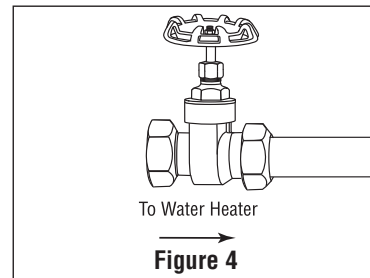

Figure 4
- Using the valve compression fitting, attach the gate valve to the incoming water supply pipe after the system. Firmly tighten compression nut. (Figure 4)
It may be necessary to slightly spread pipe ends apart in order to insert the AP430SS head assembly with adapters into valve. (Figure 4)